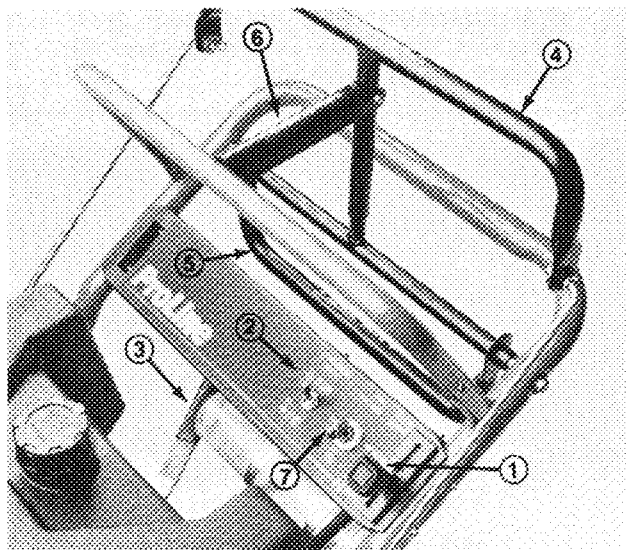

Figure 11
**Throttle Control (Fig. 11)** — The throttle control has three positions: CHOKE, FAST and SLOW.
**Deck Engagement Switch (Fig. 11)** — Toggle switch releases blade brake and engages electromagnetic clutch to drive deck pulleys.
**Gear Shift Lever (Fig. 11)** — Transmission has four forward speeds, neutral and reverse, and has an in-line shift pattern. Do not shift while unit is moving, as transmission damage may occur.
**Upper Control Bar (Fig. 11)** — Shift to desired gear and push forward on control bar to engage forward traction operation and pull back to brake. Pull right side of control bar to turn right and left side to turn left.
**Lower Control Bar (Fig. 11)** — Shift transmission to reverse and pull rearward on lower control bar to engage rearward traction operation.
**Parking Brake Lever (Fig. 11)** — Pull back on upper control bar and swing brake lever up against the upper handle.
**Ignition Switch (Fig. 11)** — Key switch is used in conjunction with recoil starter. Switch has two positions: RUN and OFF.